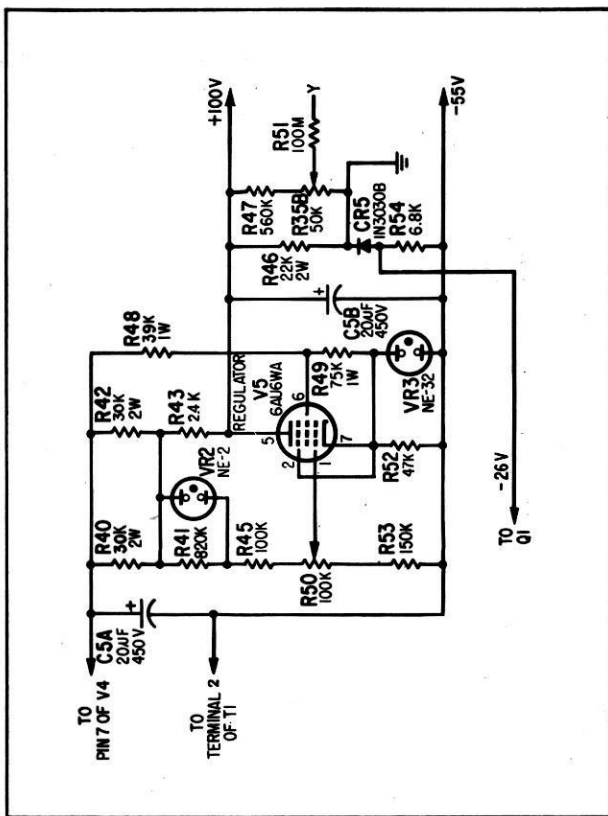

Figure 4-8. Voltage Regulator Circuit, Schematic Diagram
g. **VOLTAGE REGULATOR CIRCUIT** (see figure 4-8). - Design of the voltage regulator is such that it insures stable regulated B+ voltage for tubes V2 and V3 despite variations in load demands or in supply voltage fluctuations. Regulation of the entire B supply is accomplished by a shunt-type pentode regulator tube V5.
(1) The negative B supply lead is clamped at a definite level with respect to the chassis ground by gaseous regulator tube VR3. The regulated positive B supply is referenced to B minus through the voltage divider R41, R45, R50, R53 and the gaseous regulator tube VR2. Any tendency of the total regulated B supply voltage to change due to changes in either the load current or supply voltage will cause a change in the voltage drop across the voltage divider. These changes are applied to the control grid of tube V5 in such a relationship as to cause the regulator to correct for the change in voltage.